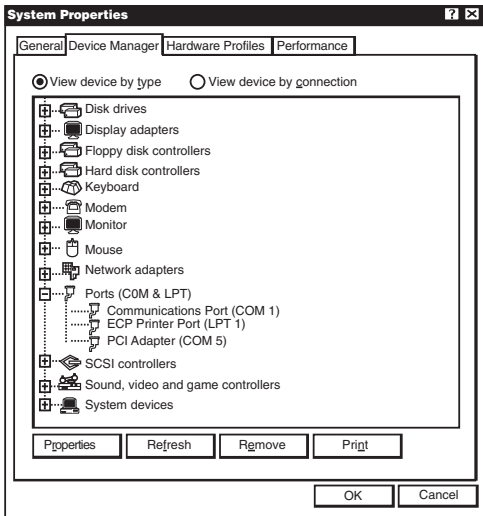

Figure 5-1. System Properties screen.
3. Click on the Start button, then choose Settings, Control Panel, System, Device Manager. You should see a window that is similar to the one shown in **Figure 5-1**.